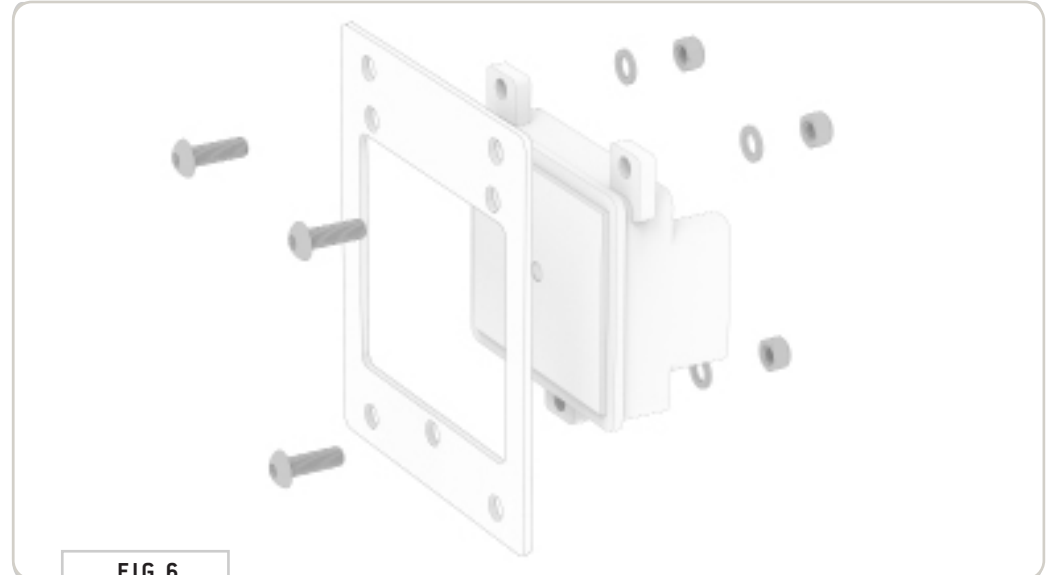

FIG 5
**2.1 Cut Out Notch:** Cut out the notch using an **Auto Body Saw** or **Angle Grinder with a Metal Blade or Cutoff Wheel (FIG 5)**.